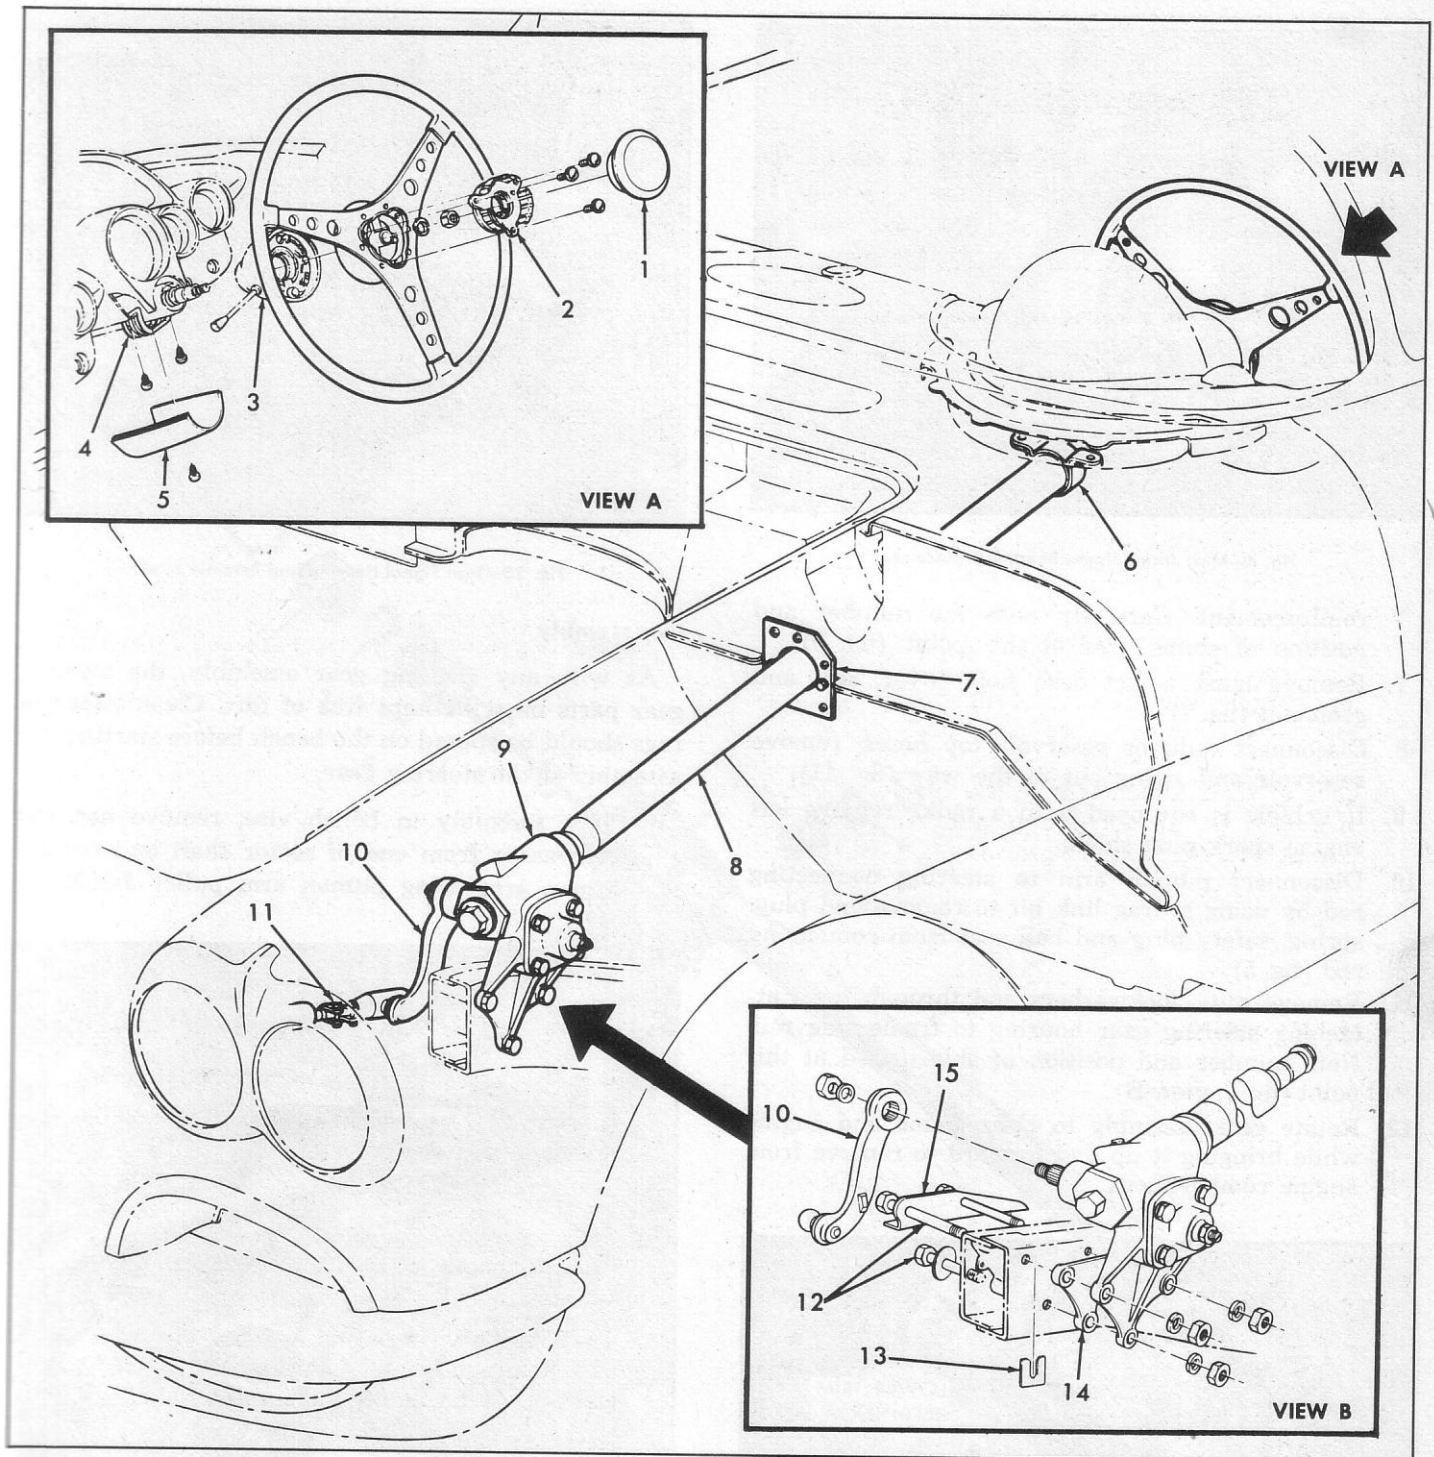

Fig. 7—Steering Gear, Mast Jacket, and Steering Wheel
Removal (fig. 7, view A)
- Remove instrument panel cluster lower trim cover to gain access to turn signal housing retainer screw (fig. 7).
7. Remove mast jacket dash hole cover, seal and grommet (fig. 7).
11. Remove nuts, lockwashers and through bolts attaching steering gear housing to frame side rail. Note number and position of shims used at this point (fig. 7, view B).